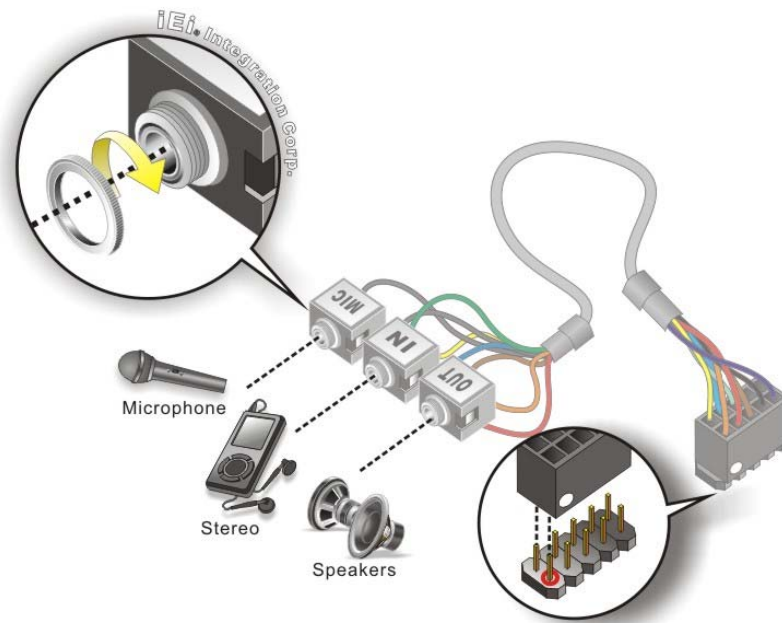

Figure 4-14: Audio Kit Cable Connection
Step 2: **Align pin 1.** Align pin 1 on the on-board connector with pin 1 on the audio kit connector. Pin 1 on the audio kit connector is indicated with a white dot. See Figure 4-14.